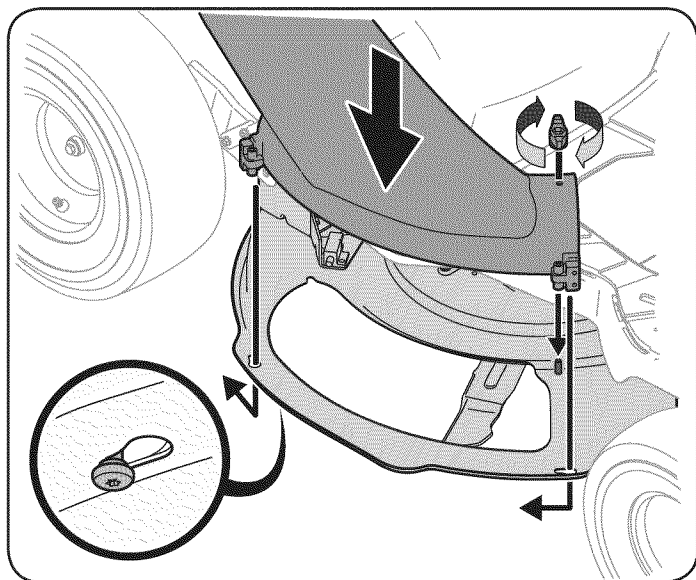

Figure 8
9. Remove the deck chute, or mulch plug, and mount the bagger chute tube to the deck of the tractor by feeding the two pins on the chute tube elbow into the large end of the keyhole-openings provided in the unit's mowing deck. Slide the deck chute assembly rearward to lock into place, being sure to engage the safety interlock switch. See Fig. 8.